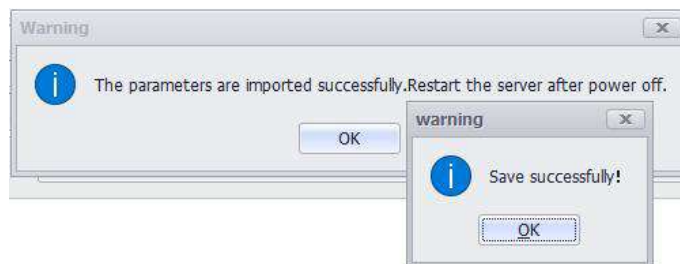

Figure 4-2 Save successfully
- ③ Find the parameter file to be imported from the local folder of the host computer, select it and "**Open**".
- ④ When the operation is complete, a prompt box will pop up, as shown in Figure 4-2 .